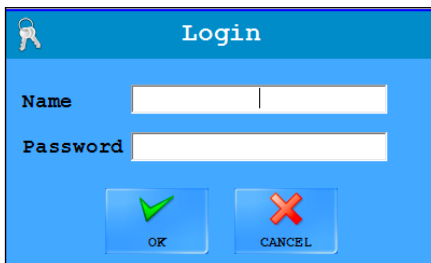

Figure 6. The Login window
2. Click the pop-up box to display the login window (see Figure 6).